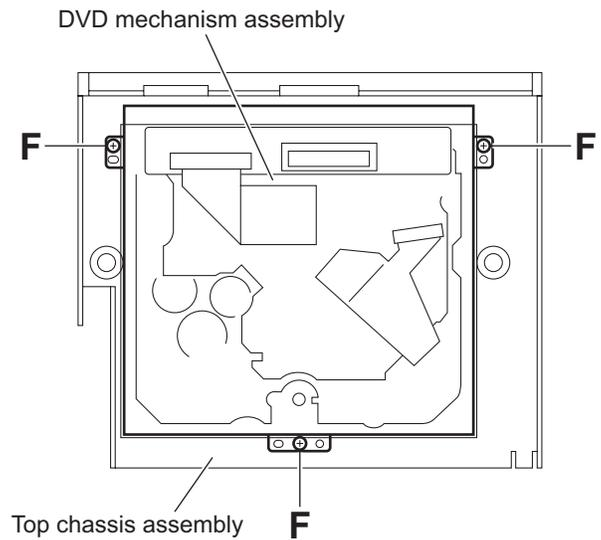

Fig.8
3.1.5 Removing the DVD mechanism assembly (See Figs.8 and 9)
- From the inside of the top chassis assembly, remove the three screws **F** attaching the DVD mechanism assembly and take out the DVD mechanism assembly. (See Fig.8.)